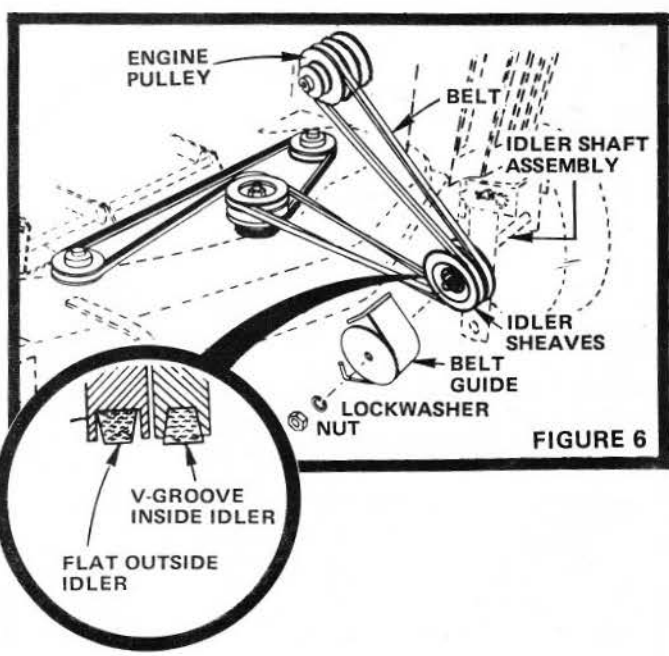

FIGURE 6
- 19. Remove Nut, Lockwasher and Belt Guide. Place Belt on Idler Sheaves and on Engine Pulley. NOTE: See Fig. 6 for proper way of installing Belts on Idler Sheaves. Backside (outside) of Belt must be placed in Flat (outside) Idler. Belt must be placed in largest groove on Engine Pulley.